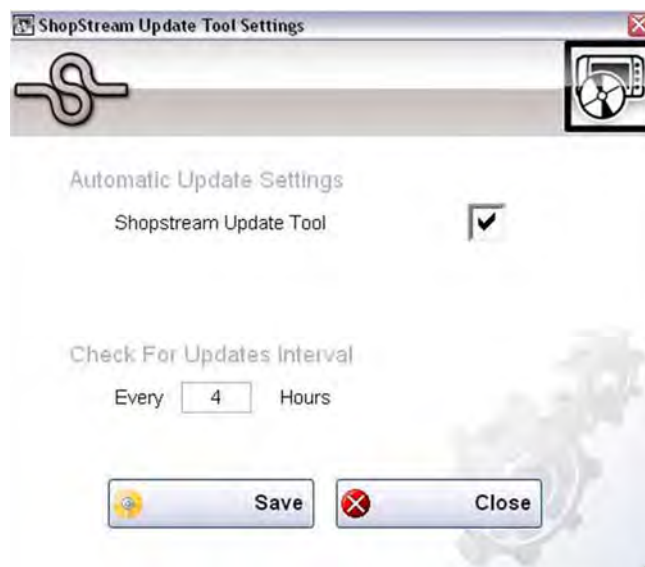
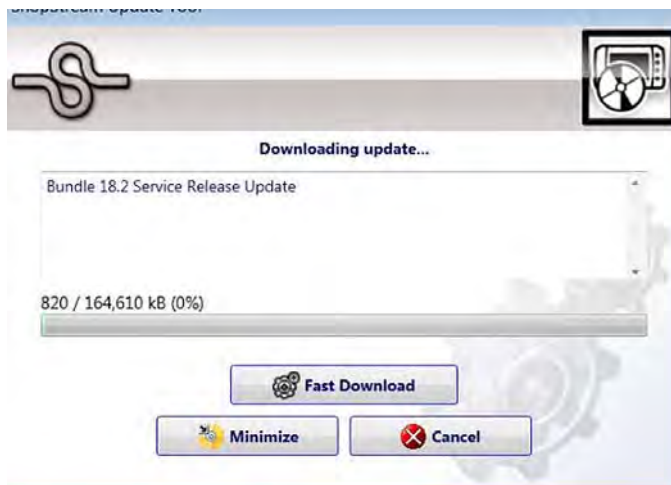

Figure 15-2
Figure 15-7 Typical - Update status window
- If updates are found, they will automatically begin to download (Figure 15-7).
To view the update status window (Figure 15-7), select **Show Progress** from the SST icon menu (Figure 15-2).
The percentage status bar may not always be displayed while downloading (Figure 15-7).